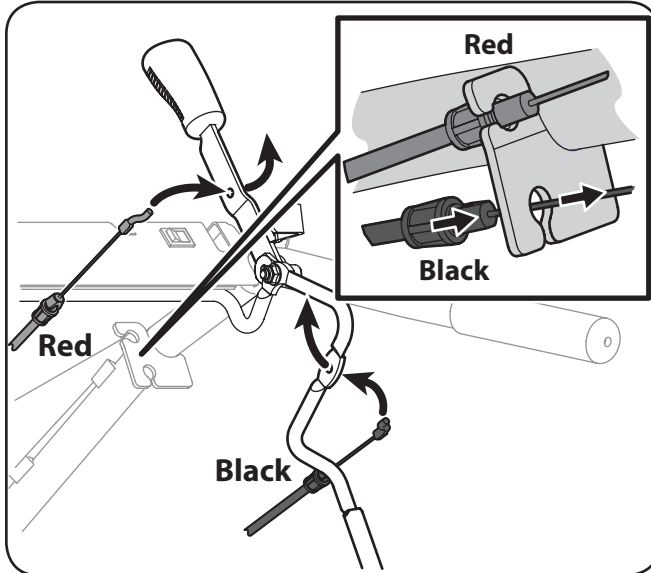

Figure 3-3
6. The forward (black) cable is routed up the back of the right handle and snapped into the cable mount bracket as shown in Figure 3-3.
7. When the forward (black) cable is correctly mounted on the cable mount bracket, install the z-fitting into the clutch bail. See Figure 3-3.
8. The reverse (red) cable is routed up the right side of the right handle and snapped into the cable mount bracket as shown in Figure 3-3.
9. When the reverse (red) cable is correctly mounted on the cable mount bracket, feed the cable through the slot in the panel and then connect the z-fitting into the reverse handle. See Figure 3-3.